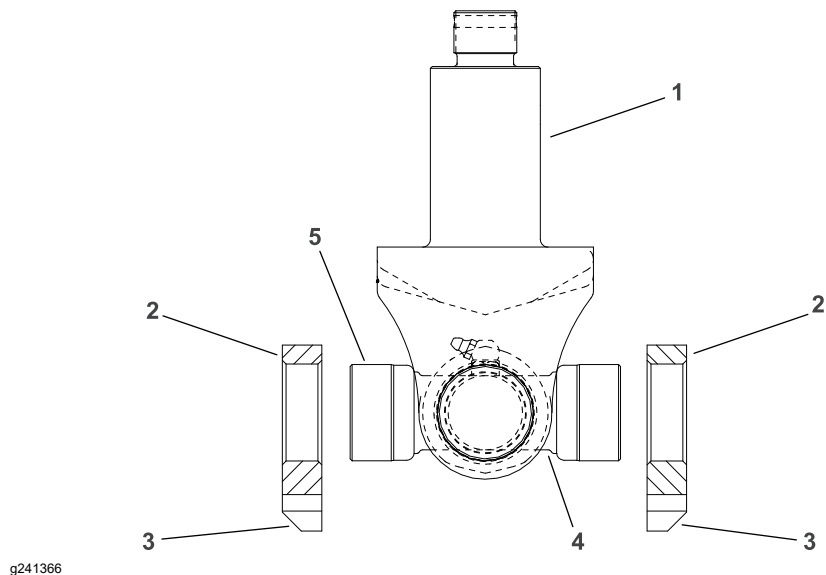

Figure 14
- 8. Press the base mounts onto the bearing caps with the angled edge of the mounts away from the joint; refer to Figure 14. The outside of the cross bearing cups should be flush with the base mount surfaces.